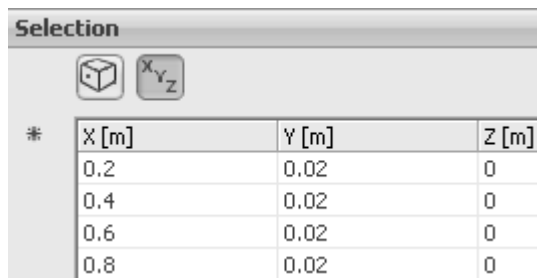
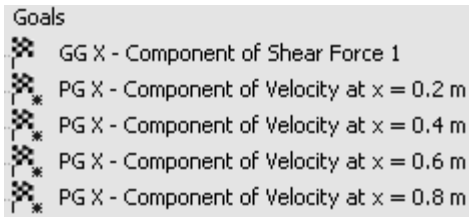
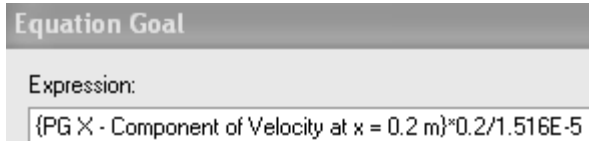

Figure 2.21e) Coordinates for point goals
Figure 2.21g) Renaming the point goals
Figure 2.21h) Entering an equation goal
21. Right click on **Goals** in the **Flow Simulation analysis tree** and select **Insert Global Goals...** Select **X – Component of Shear Force** as a global goal. Exit the **Global Goals** window. Right click on **Goals** in the **Flow Simulation analysis tree** and select **Insert Point Goals...** Click on the  **Point Coordinates** button. Enter **0.2 m** for X coordinate and **0.02 m** for Y coordinate and click on the **Add Point** button . Add three more points with the coordinates shown in figure 2.21e). Check the **Value** box for **X-Component of Velocity**. Exit the **Point Goals** window. Rename the point goals as shown in figure 2.21g). Right click on **Goals** in the **Flow Simulation analysis tree** and select **Insert Equation Goal...** Click on the **X-Component of Velocity at x = 0.2 m** goal in the **Flow Simulation analysis tree**, multiply by 0.2 and divide by the kinematic viscosity of air at room temperature ($1.516E-5$) to get an expression for the Reynolds number in the **Equation Goal** window, see figure 2.21h). Select **No units** from the dimensionality drop down menu. Rename the equation goal to **Reynolds number at x = 0.2 m**. Insert three more equation goals corresponding to the Reynolds numbers at the three other X locations. For a definition of the Reynolds number, see page 2-19.